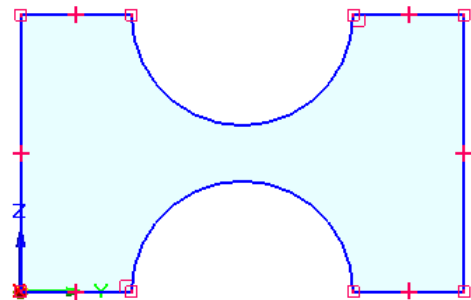

Figure 2-58 Final sketch of the model
19. Click to define the endpoint of this line when the endpoint relationship handle is displayed. The final sketch of the model is shown in Figure 2-58.